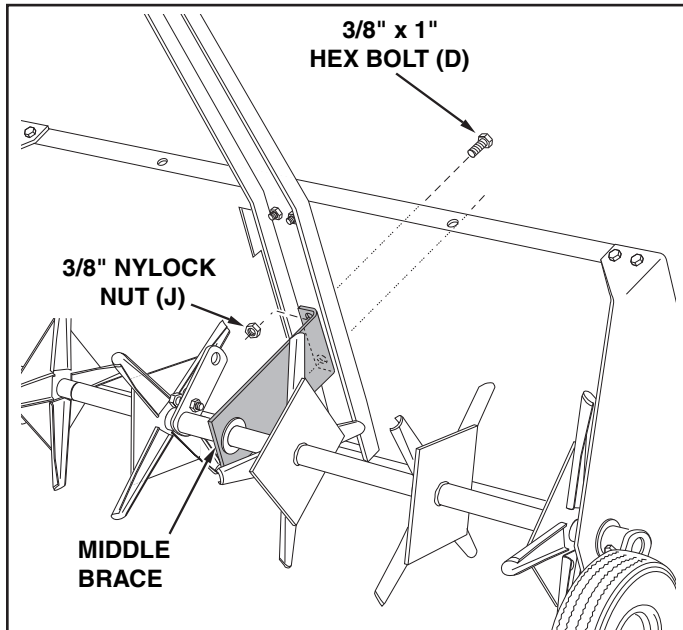

**FIGURE 10**
- Assemble a wheel to a wheel bracket as shown in figure 10. Use a 1/2" x 3-1/2" hex bolt, one 1/2" hex jam nut, and one 1/2" hex nylock jam nut. Adjust the nuts so that the wheel is held securely but will spin freely. Repeat on other side. See figure 10.